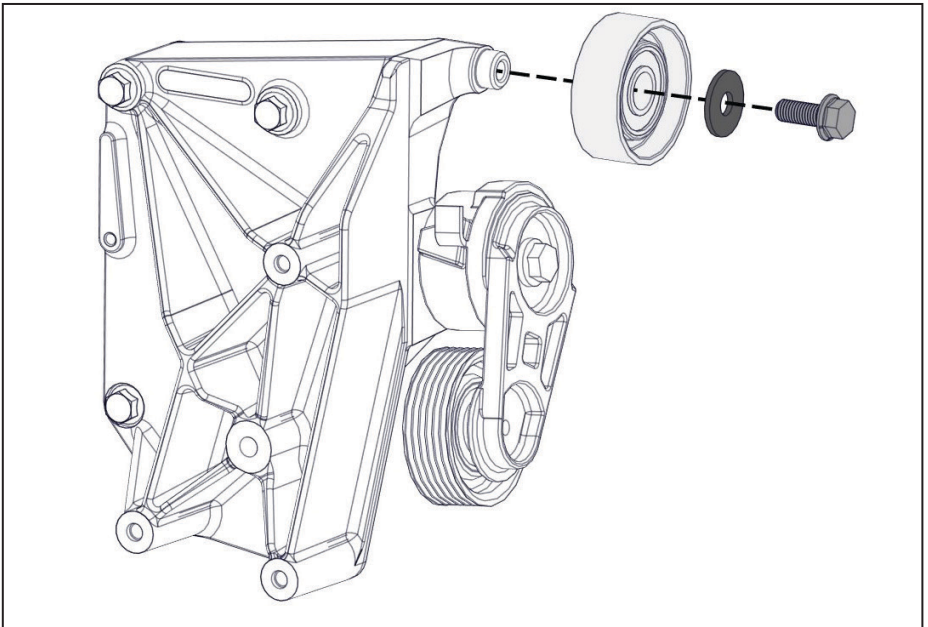

Figure 12 — Install main bracket idler
- Install one of the supplied idlers onto the VMAC main bracket (Figure 12).